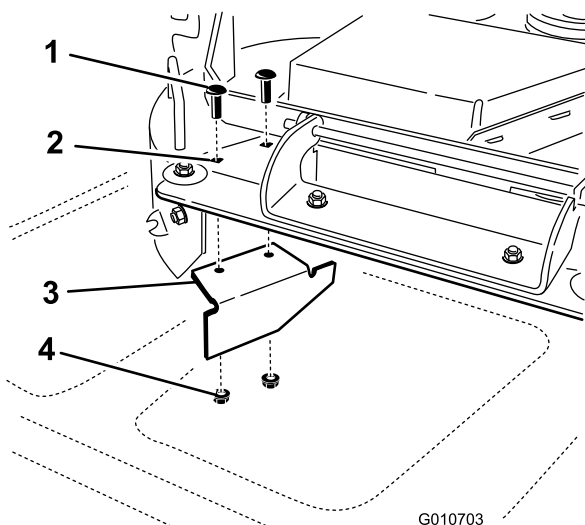

Figure 35
13. Locate the cut off baffle in the loose parts bag. Remove the fasteners at the rear holes of the discharge plate. Install the baffle at the side discharge opening on the mower deck (Figure 35).